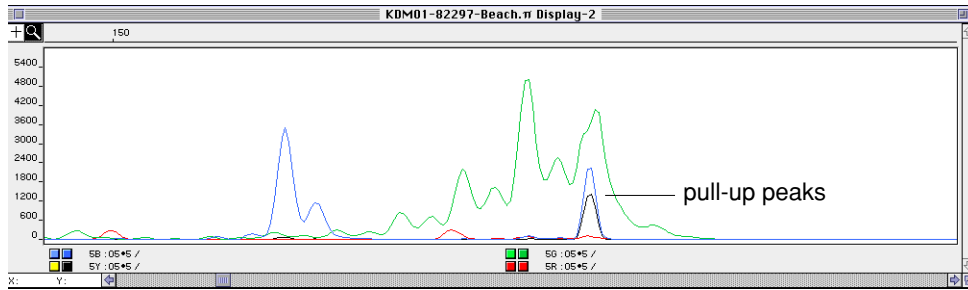
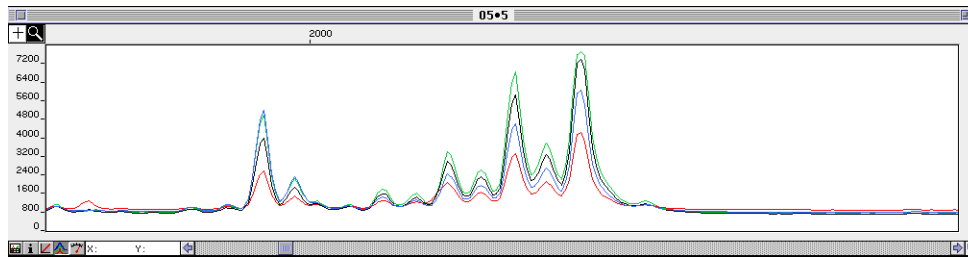

Figure 3-6 Characteristic appearance of bleedthrough peaks
Figure 3-7 Raw data from the bleedthrough example shown in Figure 3-6
Bleedthrough peaks are small peaks of one color lying directly under a large peak of another color even though there is no PCR product corresponding to the smaller peak. (The large-peak signal is "pulling-up" peaks in other colors.) An example is shown in Figure 3-6 on page 3-12.
- ◆ The signal from the large peak is off-scale because of sample overloading. In the example shown in Figure 3-6, the peak showing bleedthrough is actually off-scale (Figure 3-7).